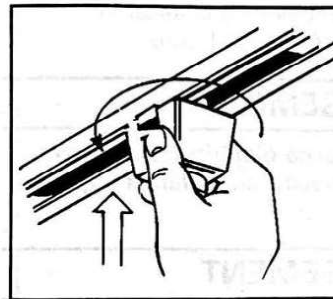

Figure 5.
1. Insert Pendant Adapter into track. (Figure 5.)